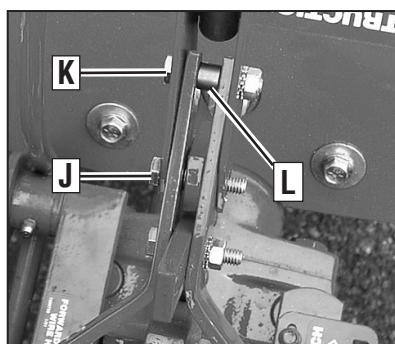
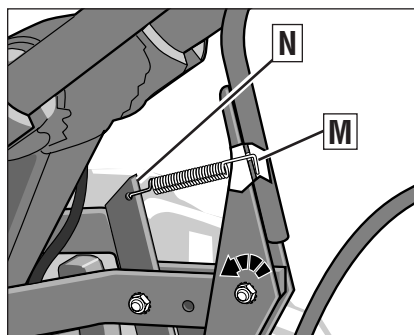
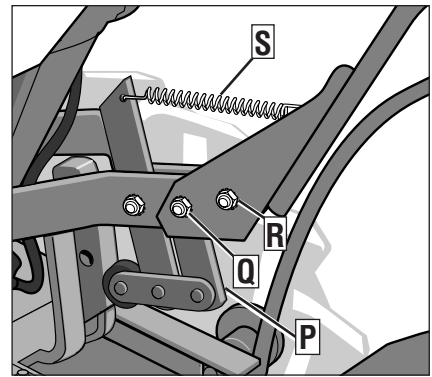

Figure 2-7: Drive Lever assembly.
Figure 2-8: Clutch pawl spring. Tilt Wheels/Tines/PTO Lever fully forward before installing spring.
Figure 2-9: Fully assembled Wheels/Tines/PTO Lever assembly.
3. Slide the plates at the end of the Wheels/Tines/PTO Lever over the yoke plates (Figure 2-9). To aid in the next step, insert a screw temporarily into the forward most holes (J, Figure 2-7) of the yoke plates and the lever.
5. Retrieve the clutch pawl spring (Figure 2-8) from hardware bag.
Remove the temporary screw (J, Figure 2-7) from the forward holes and move the Wheels/Tines/PTO Lever fully forward. Install the wider hook end of the clutch pawl spring (M, Figure 2-8) down into the small hole at the end of the handle. Use pliers to insert the other end into the hole in the long link bar (N).
6. Pull the Wheels/Tines/PTO Lever back to align the forward most holes (Q, Figure 2-9) in the yoke plate with the holes in the lever plates. Also align the bushing that is inside the short link bar (P). Install the screw, star washer, and nut, then tighten securely.
Securely tighten all other hardware (Q, R, Figure 2-9). Also ensure that the spring (S) is properly seated at both ends.
Completed assembly should appear as illustrated in Figure 2-9.